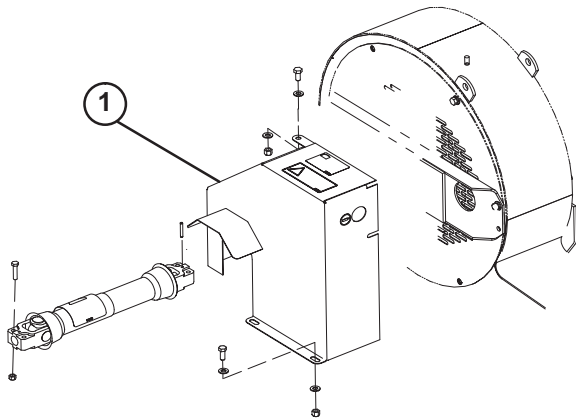

Figure 11
1. Remove (3) capscrews, (6) washers and (3) nuts securing belt guard to blower housing (Fig. 11). Remove guard.